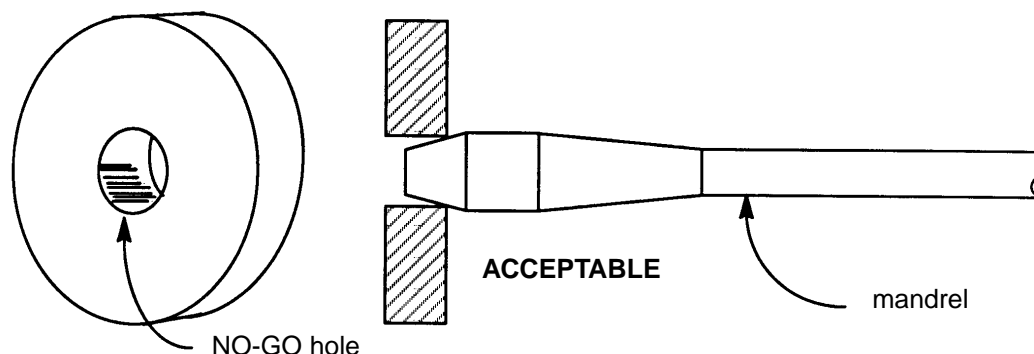

Figure 8 - Mandrel Check Fixture
- 5.2.10 **Mandrel Check Fixture** (see Figure 8): The mandrel check fixture is used to check mandrels for excessive wear. The gauge consists of a steel plate with a NO-GO hole in the centre. If the mandrel major diameter passes through the NO-GO hole, the mandrel is worn beyond the specification limit and must be replaced. It is recommended that at least once before use in a particular shift, mandrels should be checked using the mandrel check fixture.